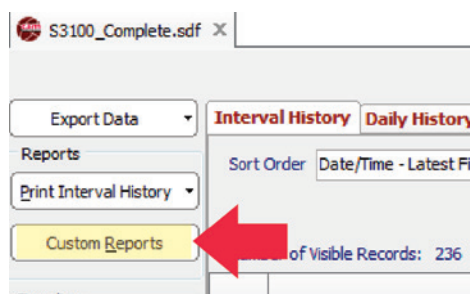
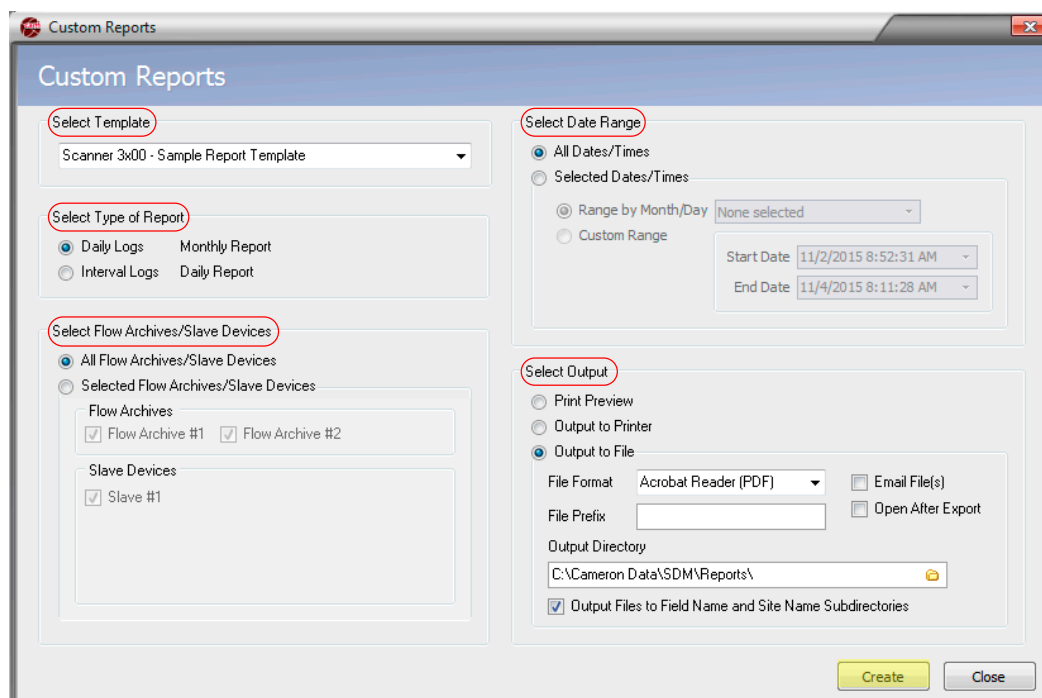

Figure 4.17—Custom Reports button on main screen
Figure 4.18—Custom Reports dialog
1. Click on the **Custom Reports** button on the left side of the main screen (Figure 4.17, page 58). The *Custom Reports* dialog (Figure 4.18, page 58) will appear, from which the final look of the report can be defined.